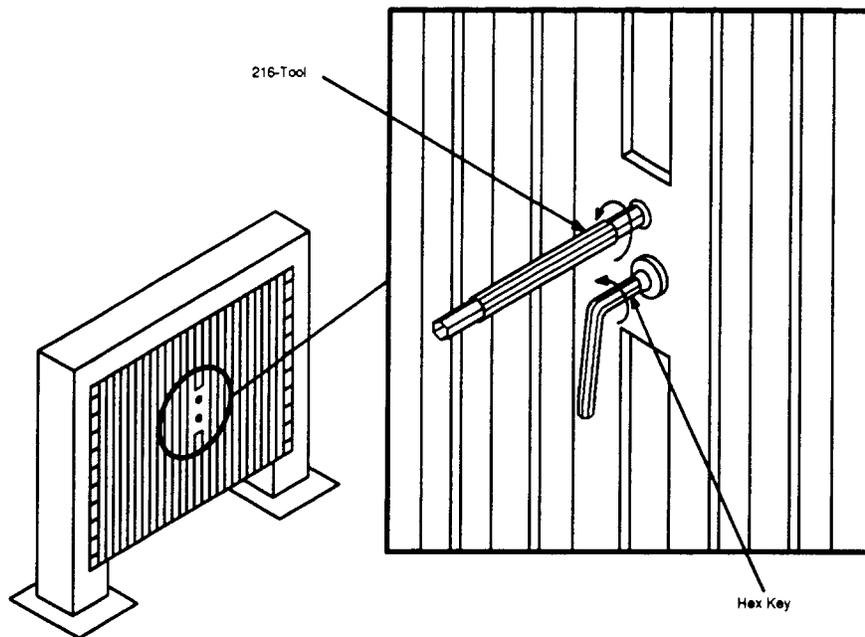

Figure 1 — Opening a Typical Cabinet with Hex Key and 216-Tool
1. The cabinet is typically opened using a special key (allen-type wrench) and a 216-type tool as shown in Figure 1.